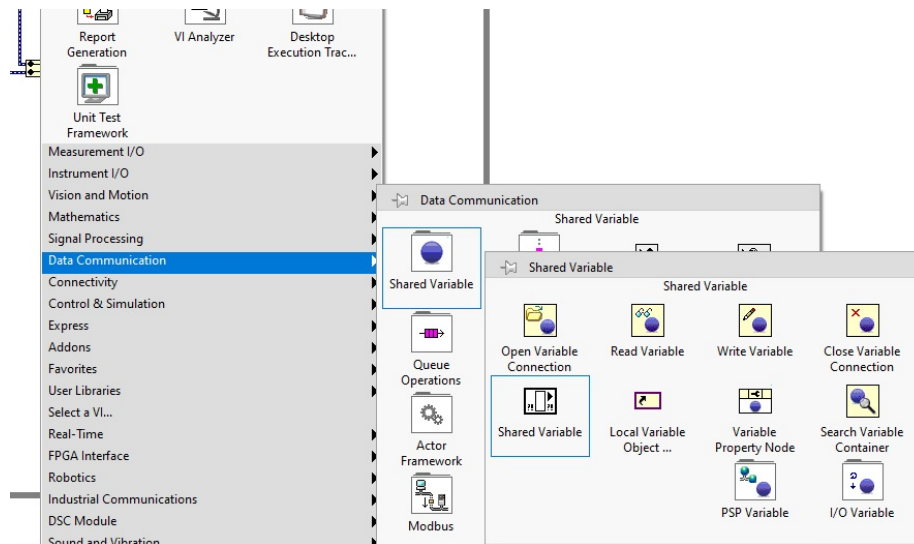

Figure 4: Adding shared variable
2. Add shared variable blocks for each input channel (see figure 4)